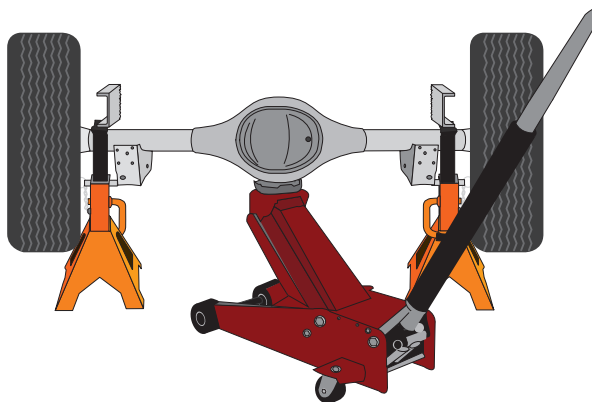

fig. D.1
1. Raise the vehicle and support it in a way, using jack stands or equivalent, that the axle can be safely dropped away from the frame. This will need to be done in order for the air spring assembly to be put into position between the axle and frame (Fig. D.1).